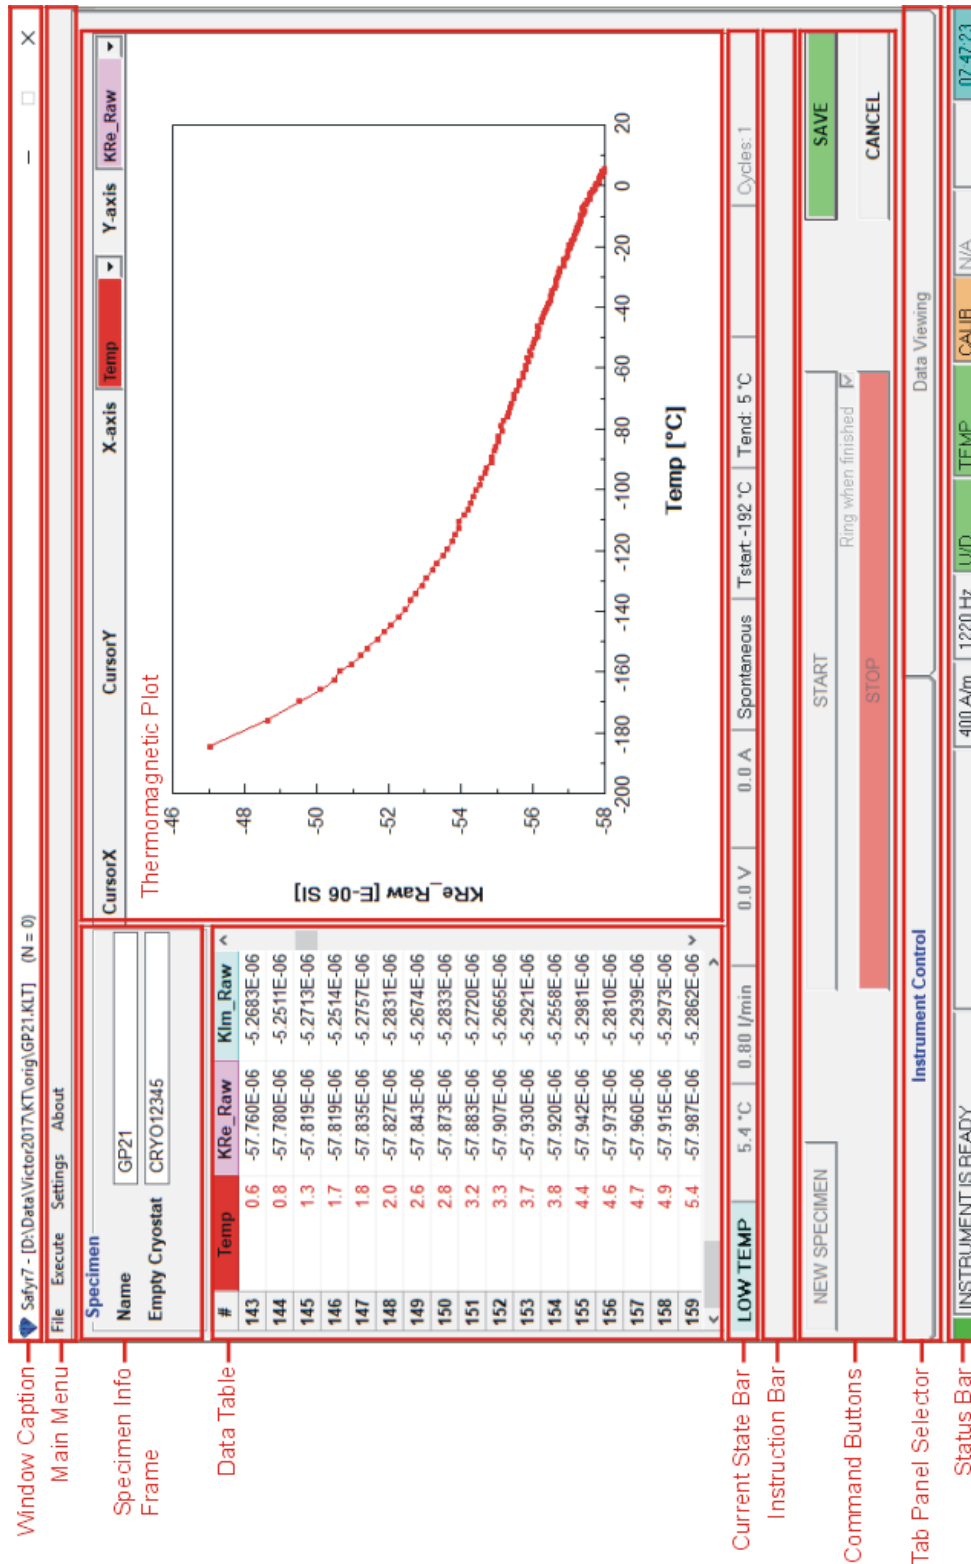

Figure 26: Instrument Control tab-panel controlling the Low Temperature Mode.
The Low Temperature Mode can be set in the **Instrument Settings** window (**Settings** > **Instrument Settings** or **F12**), see Section 3.1.1.5, Page 14. The **Safyr7** main window for the Low Temperature Mode is shown in Figure 26.
9. The average temperature (from the pre- and post measurement temperature readings) and measured susceptibility values are appended to the **Data Table** and the **Thermomagnetic Plot** is continuously re-drawn (Figure 26).